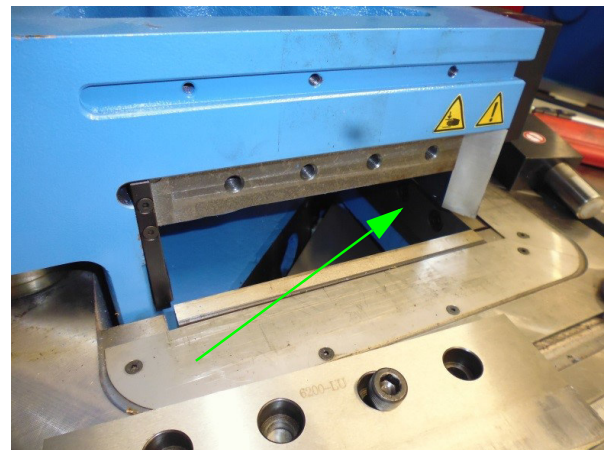

Fig. 19: Access to the fixing screws of the lower knife.
Step 9: After the upper knife has been removed, you can use an Allen key to reach the screws of the adjacent lower knife (Fig. 19 or 20).